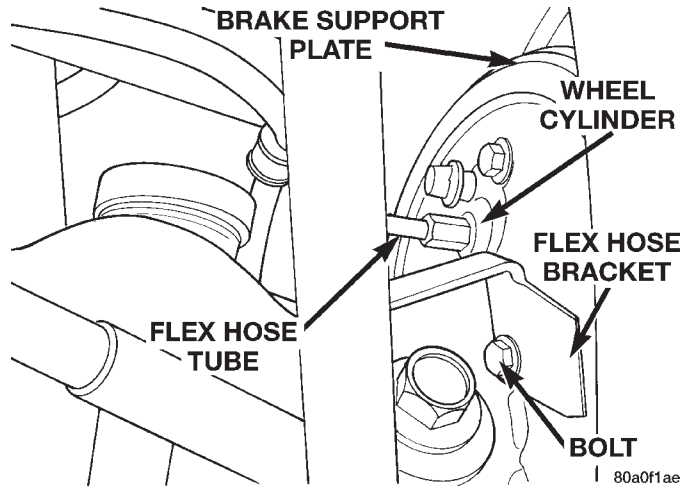

Fig. 74 Brake Flex Hose Tube At Wheel Cylinder
(6) Disconnect rear brake flex hose tube from wheel cylinder and remove the brake flex hose bracket from the brake support plate (Fig. 74).